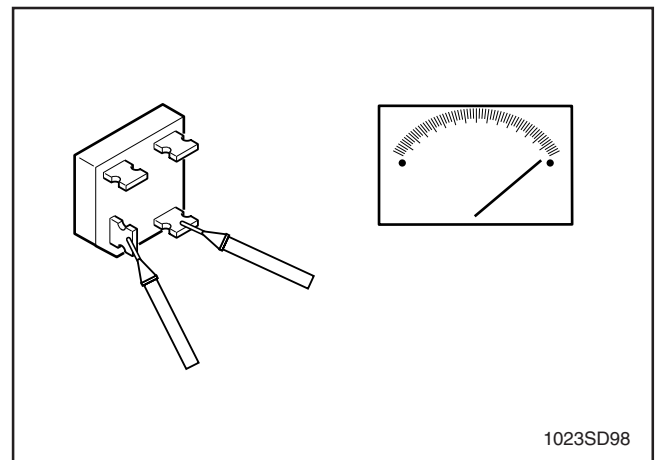

Figure 5-13. Checking Diode Bridge
3. Place the meter probes on two adjacent rectifier terminals and check resistance value. See Figure 5-13.